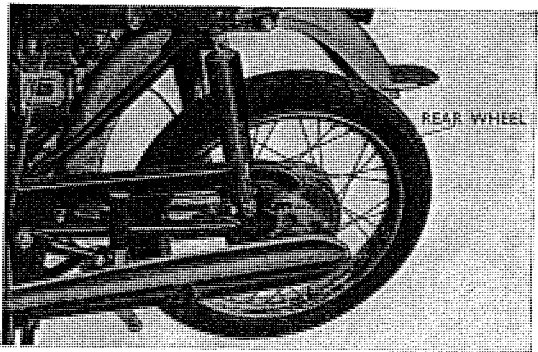

Fig. 4.84 Rear wheel
7. Tilt and extract the rear wheel. (Refer to Fig. 4.84)